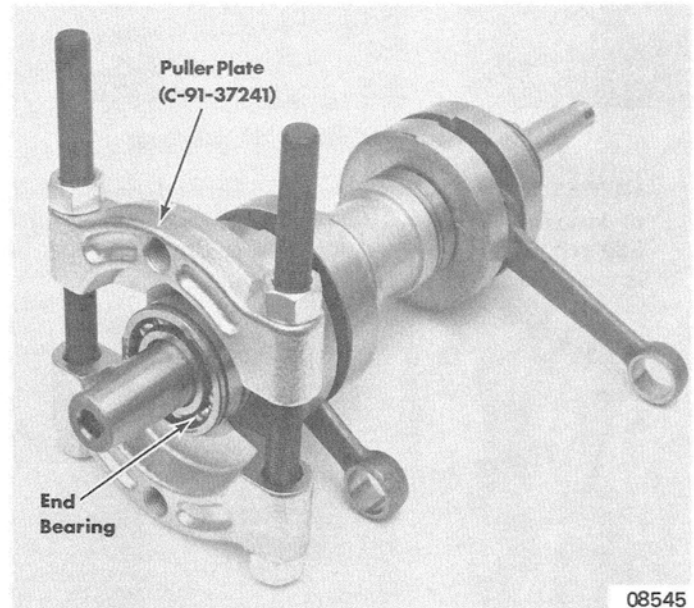

Figure 10. End Bearing Removal
1. Install Puller Plate (C-91-37241) between end bearing and crankshaft counterweight. (Figure 10)